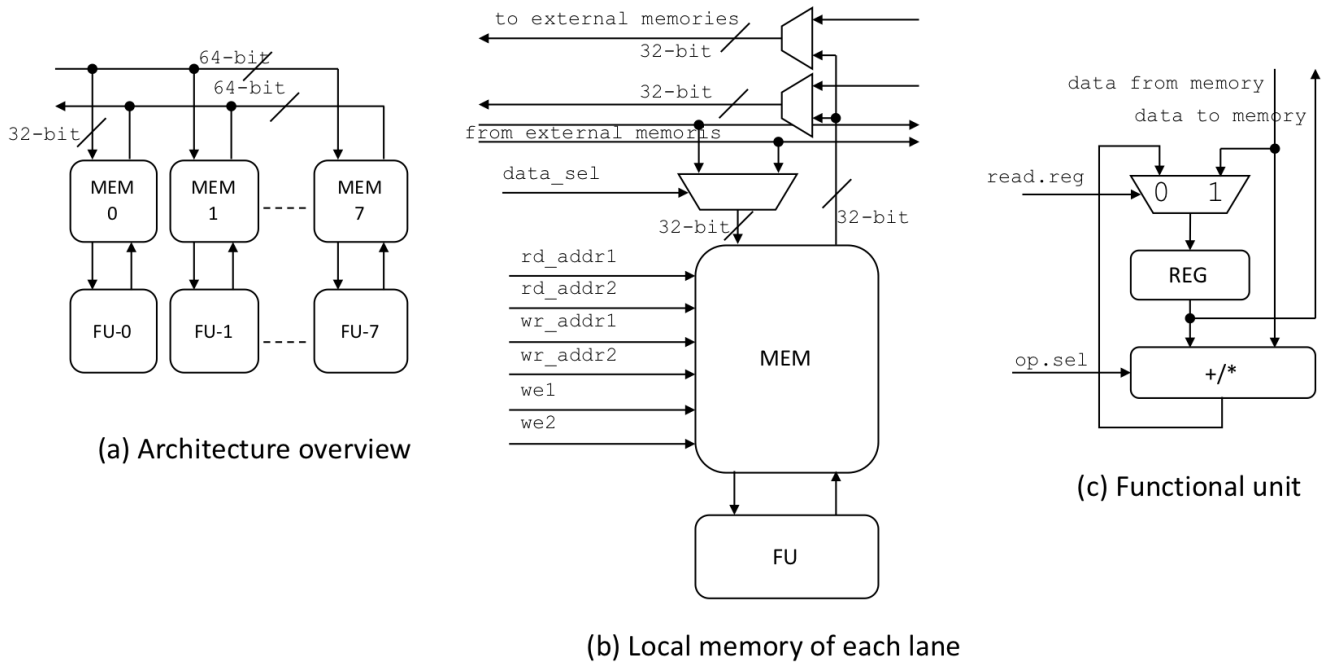

Fig. 3:Architecture
The program below performs a matrix multiplication of matrices a and b. To perform this operation in hardware, we use an 8-lane SIMD accelerator (shown in Fig. 3). Fig. 3(a) shows an overview of the parallel architecture consisting of eight parallel local memories and functional units. The local memories are connected to a 64-bit wide shared bus which can transfer two 32-bit words. Since the memory is 32-bit wide the local memory will select between one of two 32-bit words using a multiplexer (see Fig. 3(b)). Each local memory has such a select signal to select appropriate word on the bus.
- One write port is connected with the shared bus to store the data on the memory from external memory and the other is with the functional unit (see Fig. 3(b)). Likewise, each of the read ports are connected
- REG(Fig. 3(c)) of each FU can contain a single word.